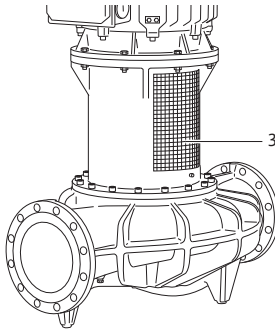

Fig. 38: Installed coupling protection metal sheet
- **The pump may only be operated with the coupling protection metal sheets installed (Fig. 38, Item 3).**